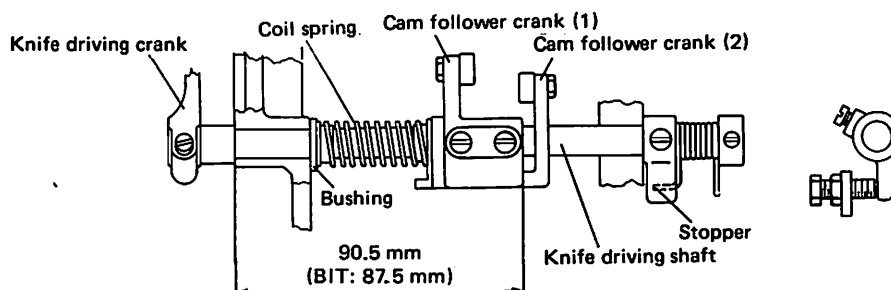
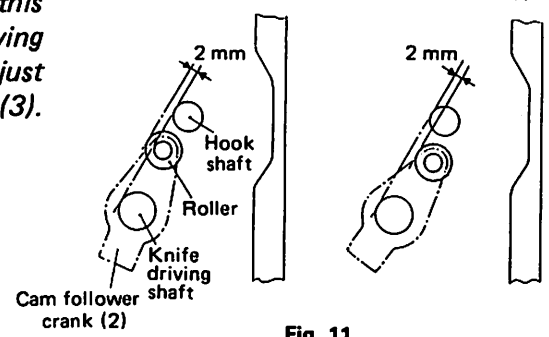
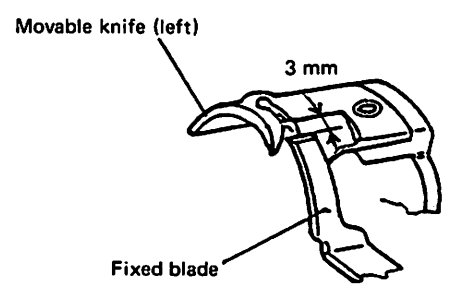

Fig. 7
Fig. 11
Fig. 14
(1) Fig. 7 shows the standard setting position.
(2) During assembling, be sure to pass the knife driving shaft through the knife driving crank first.
(3) Fix the cam follower crank (1) to the recess of knife driving shaft at the position shown in Fig. 7.
(4) Fix the stopper to the recess so that the knife driving shaft can rotate smoothly without play in the axial direction.
Note: The standard position of cam follower crank (2) prior to the operation is shown in Fig. 11. When this position has been changed, for example, by removing the stopper plate, make adjustment with the adjust screw (Fig. 7) and then make adjustment in (1) to (3).
② Make adjustment by the installation of knife driving crank.
(3) Adjustment of knife engagement pressure
① The standard knife engaging pressure is obtained when the movable knife (left) and fixed blade start making contact with each other at the position shown in Fig. 14.
② When cutting action is poor especially because of thick thread, a slight increase of the engagement pressure produces an effect.
③ To adjust the engagement pressure, loosen the lock nut ② in Fig. 11 and adjust with the adjust screw ①.